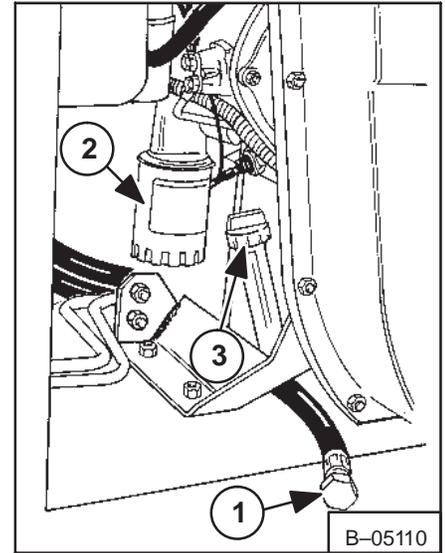

**Fig. 1-17** Oil Drain (540)
2. Remove the drain plug (540-Fig. 1-17) (543-Fig. 1-19, Item 1).